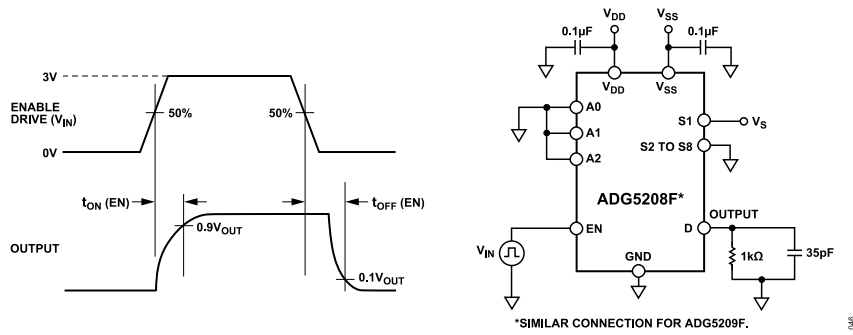

Figure 46. Enable Delay,  $t_{ON}(EN)$ ,  $t_{OFF}(EN)$
**tON (EN)**
tON (EN) represents the delay between applying the digital control input and the output switching on (see Figure 46).
**tOFF (EN)**
tOFF (EN) represents the delay between applying the digital control input and the output switching off (see Figure 46).